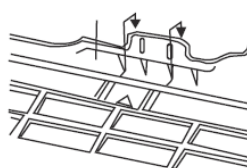

Fig.11-7
3. Hang the mounting slots that behind indoor unit on the hooks of the rear panel and check if it is firm enough. As shown in fig.11-7.